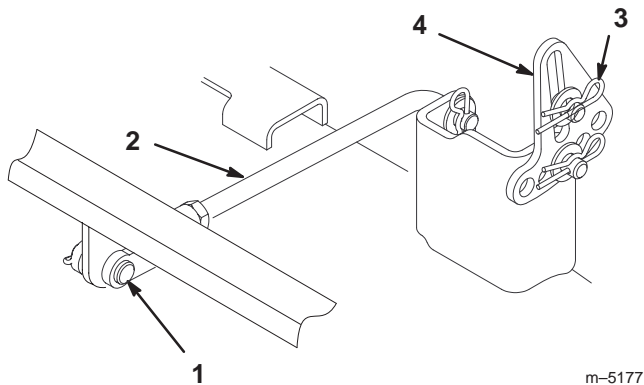

Figure 46
6. Remove the hairpin cotter and clevis pin from the rear trunion rod (Fig. 46) on each side of the mower.
7. Remove the hairpin cotter and washer at the mower leveling brackets (Fig. 46) on each side of the mower. Note which hole the leveling bracket is mounted in for future installation. Slide the brackets off of the mounting pin.
6. Attach the rear trunion rod to the tractor with the clevis pin and hairpin cotter (Fig. 46) on each side of the mower.
7. Slide the leveling brackets onto the mounting pins and secure them with the washers and hairpin cotters (Fig. 46).